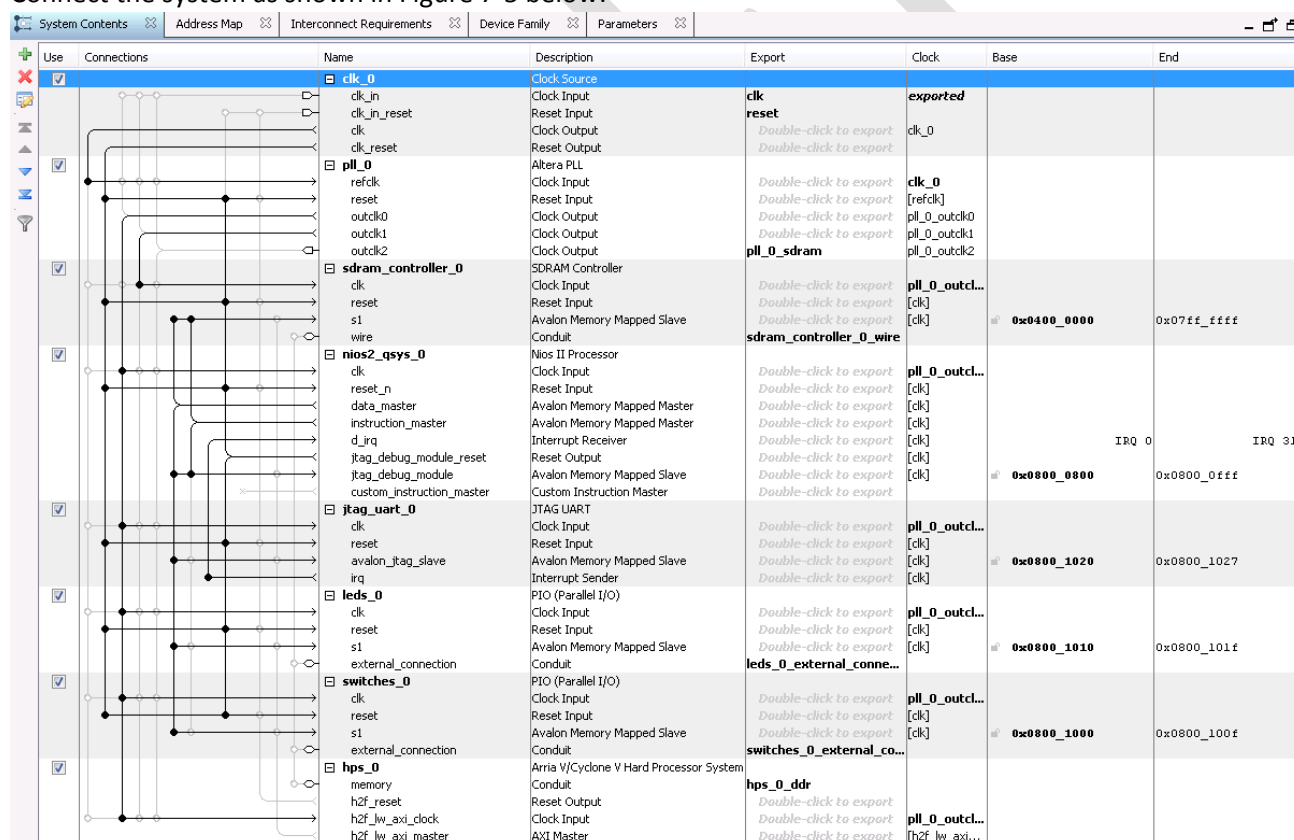

Figure 7-5. Adding the "Standalone" HPS to the System
22. Connect the system as shown in Figure 7-5 below: